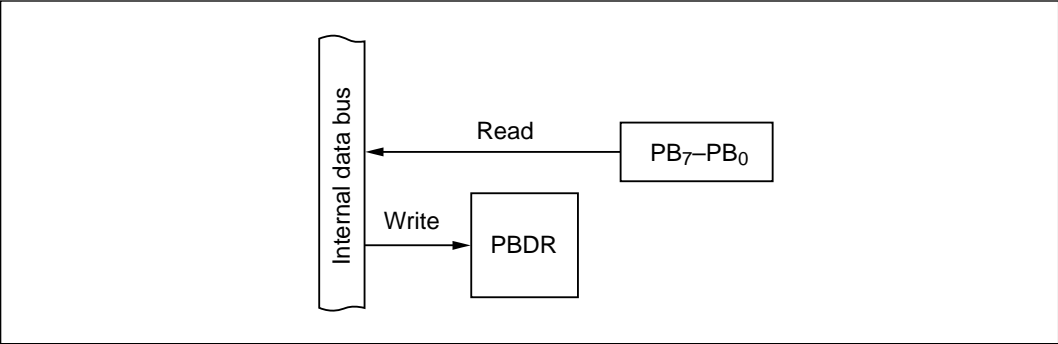

Figure 10-78 Input Port (Modes 2 and 4)
(1) **Input Port (All Pins: Modes 2 and 4):** Figure 10-78 shows a block diagram illustrating the general-purpose input function. Table 10-59 indicates register read/write data. Values written in the port B data register (PBDR) have no effect on general-purpose input lines. When read, PBDR returns the value at the pin.